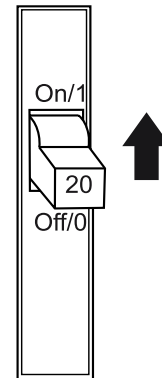

Figure 76. GFCI Circuit Breaker
2. Place a **GFCI circuit breaker** (Figure 76) in the **ON** position.